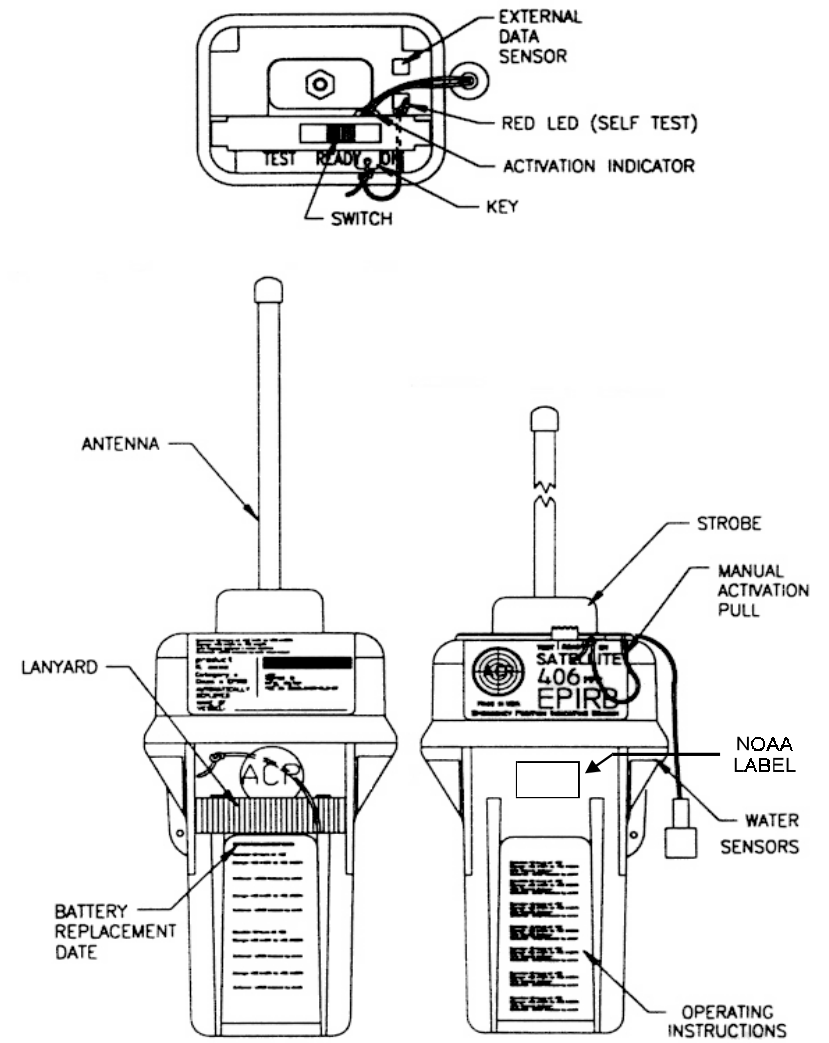

FIGURE 2: ACR/RLB-27 SATELLITE EPIRB
5.3 NOAA will supply a Beacon Registration decal which is to be affixed to the Satellite 406™. The recommended mounting location is on the front of bottom case above the instruction label. (See *Figure 2*)